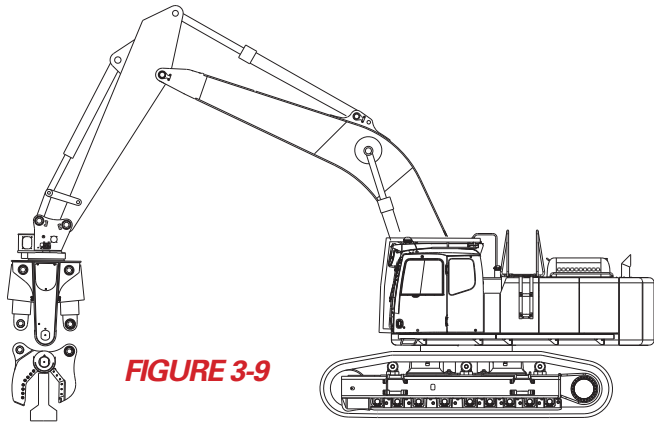

FIGURE 3-9
2. Place the jawset to be installed in a secure position with the pin connections at the top (see figures 3-9 and 3-10).